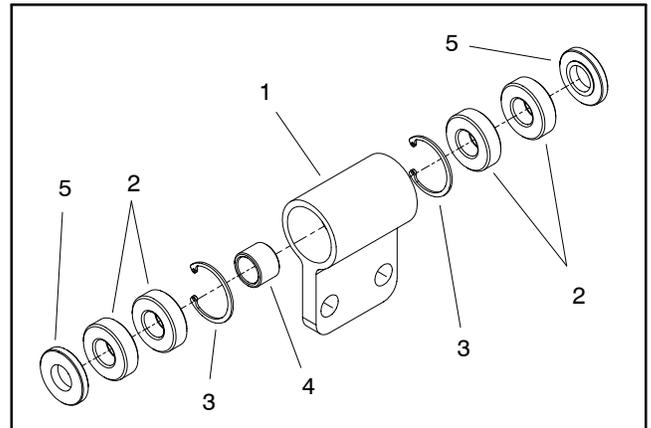

Figure 7
3. If necessary, disassemble rear spool assembly using Figure 7 as a guide.
1. If rear spool assembly was disassembled (Fig. 7):
- D. Press final two (2) new bearings into housing following above procedure.
2. If bearings (item 7) were removed from linkage arms, press new bearings into arms.